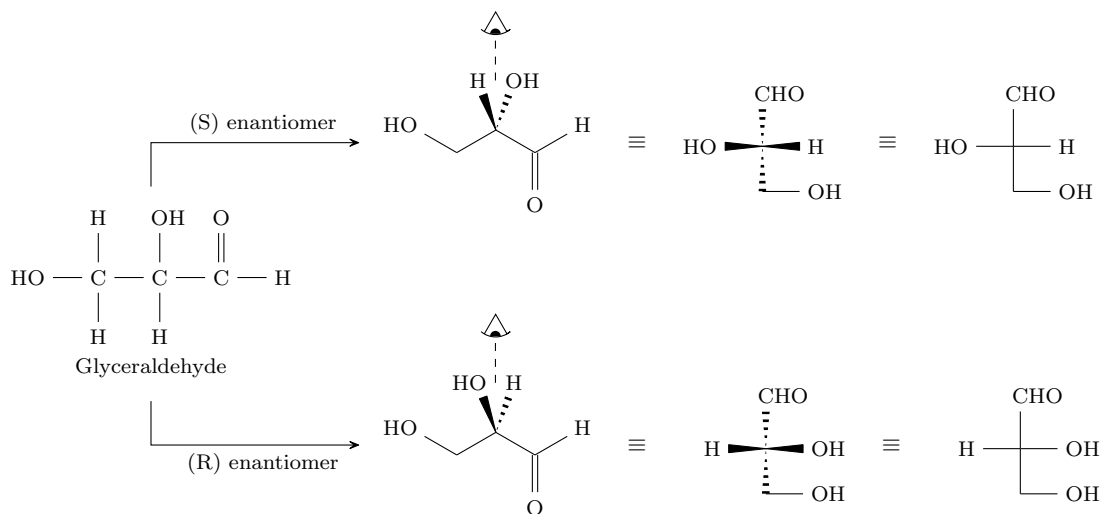

Figure 8.4: Interpreting the Fischer projections of glyceraldehyde.
- The elements of Figure 8.4.
- The (S) enantiomer of glyceraldehyde is drawn in line-angle, in a top-view, and as a Fischer projection along the top row. The same is true of the (R) enantiomer along the bottom row.
- D/L nomenclature in Figure 8.4.
- The (S) enantiomer is **L-glyceraldehyde**.
- The (R) enantiomer is **D-glyceraldehyde**.